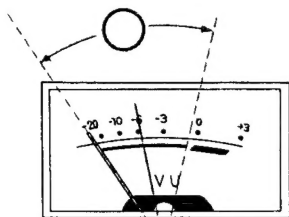
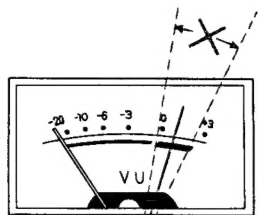

Fig. 4
Fig. 5
- 6) Set the correct recording level by turning the recording level controls 20 until the needles of the recording level meters 10 deflect within the black area at very loud sound. (Fig. 4) If the needles deflect into the red area, the recording level is set to high and recorded sound may be distorted. (Fig. 5.)